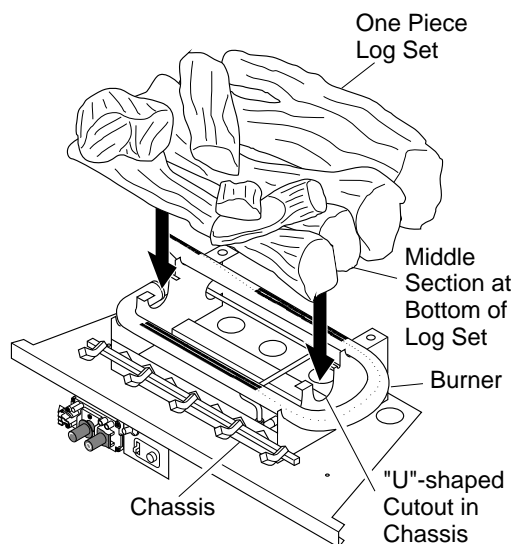
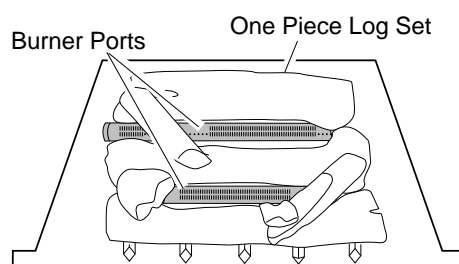

Figure 24 - Installing One Piece Log Set
Figure 25 - Installing One Piece Log Set (Top View)
1. Place one-piece log set on grate to fit as illustrated in Figure 25. Make sure middle section at bottom of log set is seated into "U"-shaped cutout in center of chassis (see Figure 24).